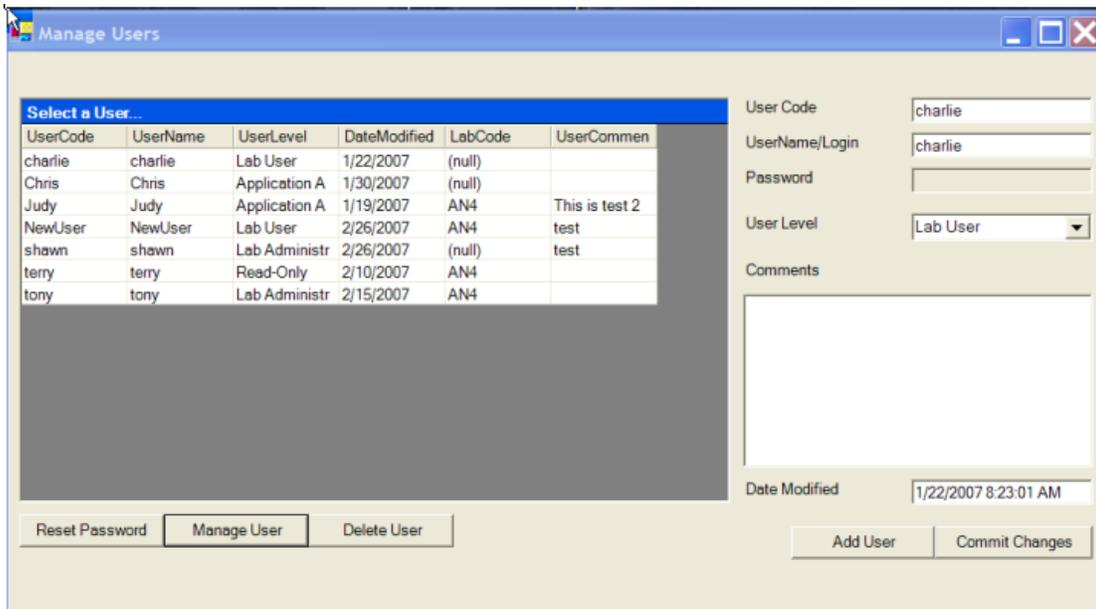

Figure 76. Manage Users
- (6). Make the changes needed and press commit changes (Figure 76).